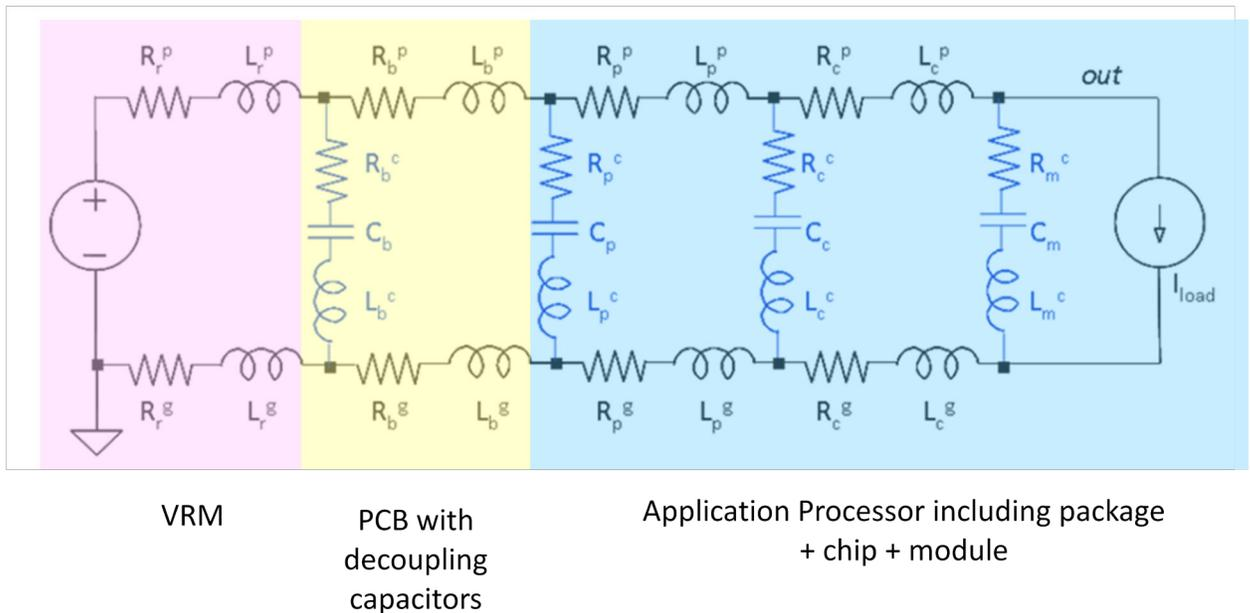

Figure 1: Power Delivery Network model
The objective of a PDN is to supply a clean and stable voltage to the device. However the PDN is not ideal due to the parasitic added by the elements constituting the power network. Figure 1 presents a break-down model of a complete PDN network from Voltage Resource Manager (VRM) to the Application Processor (AP).